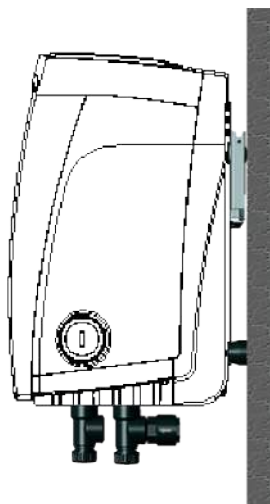

Figure 18
3. remove the drainage cap anyway, taking care not to drop the O-ring (Fig.18);
This product is already set up for installation hanging on the wall with the DAB accessory kit, to be purchased separately. The wall installation appears as in Fig.18.